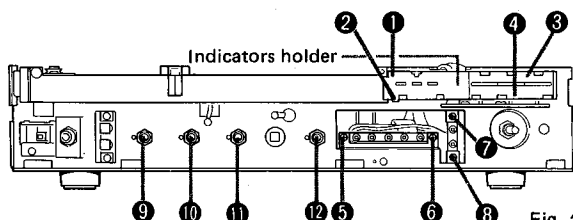

Fig. 4
1. Remove the front panel assembly. (Refer to step ③)
2. Remove the indicators holder hooks ① to ④ in Fig. 4 and then remove the indicators holder.
4. Remove the screws ⑤ and ⑥ in Fig. 4 and then remove the tape monitor & function selector switches P.C. board.
2. Remove the screws ⑦ and ⑧ in Fig. 4 and then remove the fm muting & audio mode switches P.C. board.
1. Remove the cabinet bottom. (Refer to step ②)
2. Remove each indicators of tape monitor, fm tuning and fm/am signal. (Refer to step ④)
3. Remove the tape monitor & function selector switches P.C. board. (Refer to step ⑤)
5. Remove the hexagonal nuts ⑨ to ⑫ in Fig. 4.